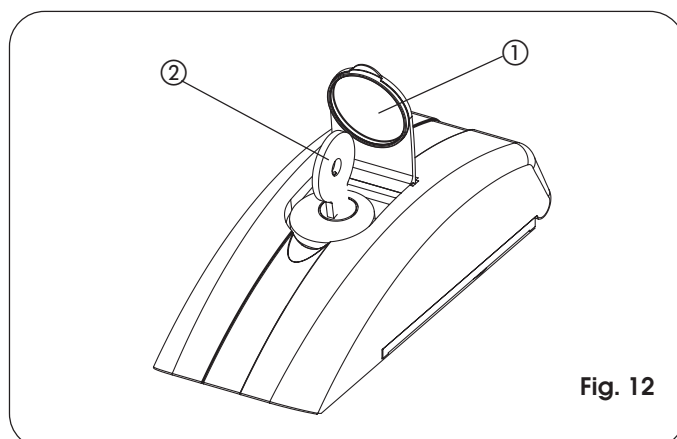

Fig. 12
-Lift the protective plug (Fig. 12, ref. ①) and fit the supplied key (Fig. 12, ref. ②).